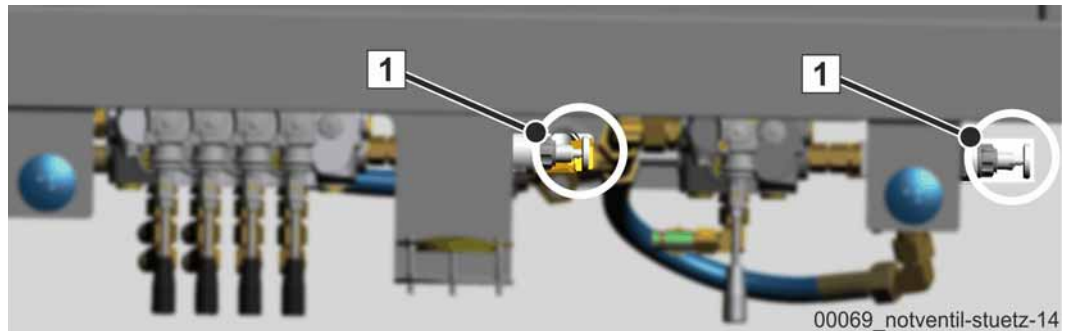

Fig. 205 Emergency valve for release button (S 65 SXF)
For machine models with type S65SXF, the valve on each release button has to be actuated manually (1) (**Fig. 205**) in addition to the control lever (7).